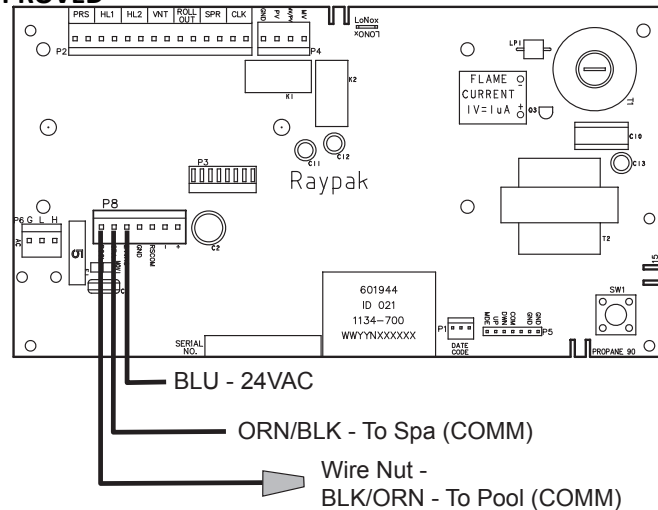

Figure 41. 2-Wire Remote Harness Installation on the P8 Connector of the Board
7. Install the "7-Pin Remote Interface Harness" to the P8 connector and turn power "ON" to the heater. See **Figure 41**.